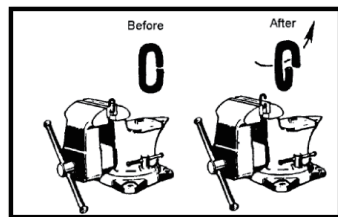

FIG 8
5. Using an adjustable wrench, twist the link horizontally from front to back (FIG 8). Open just far enough to insert (or remove) a second chain link.